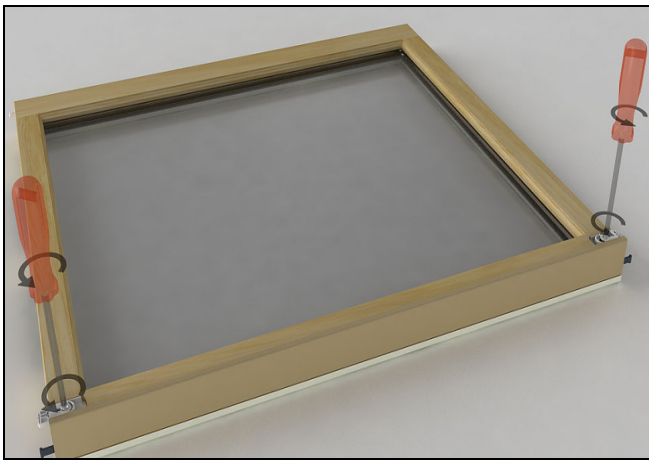

Figure 1
1. For the 1.0, remove the #7 x 7/8" screws from the locking latches. Remove latches. See Figure 1.